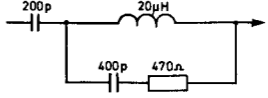

Fig. 16.
5.	$f = 1400 \text{ kHz}$, 30% mod., via dummy ant. fig. 16.